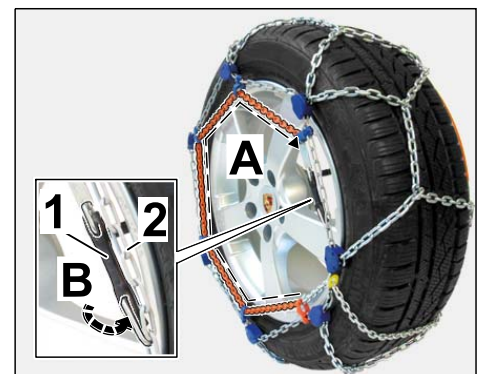
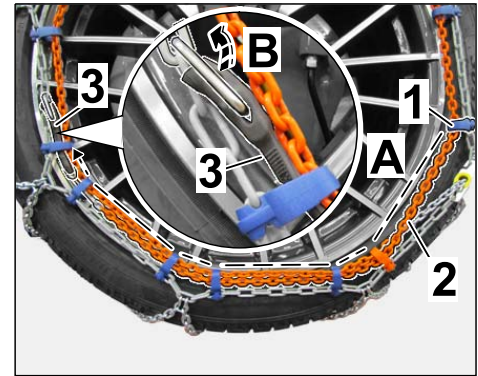

Figure 13
Figure 14
2.3.1 Guide tensioning chain after the locking plate to the orange plastic eyelet first (⇒ *Figure 13*).
2.3.3 Feed the rest of the tensioning chain in a circle (⇒ *Figure 13-A*) over the complete wheel through the remaining plastic eyelets.
2.3.4 If the tensioning chain does not end at the last plastic eyelet: Feed the tensioning chain through the plastic eyelets again (⇒ *Figure 14 -A-*).
2.3.5 Engage hook of the bungee cord slightly tensioned into a chain link on the outer chain (⇒ *Figure 13 -B-* or ⇒ *Figure 14 -B-*).